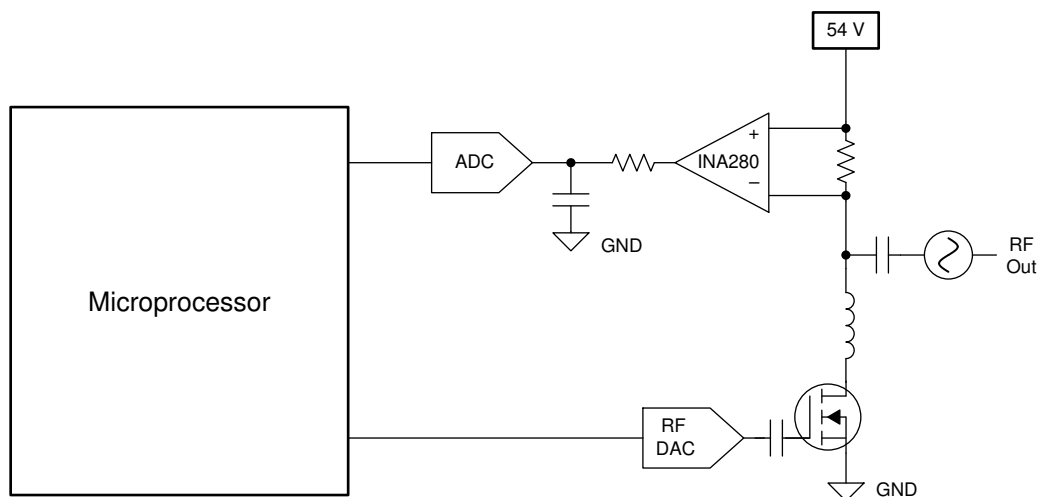

图 8-2. Current Sensing in a PA Application
The INA280 is a unidirectional, current-sense amplifier capable of measuring currents through a resistive shunt with shunt common-mode voltages from 2.7 V to 120 V. The circuit configuration for monitoring current in a high-side radio frequency (RF) power amplifier (PA) application is shown in Figure 8-2.